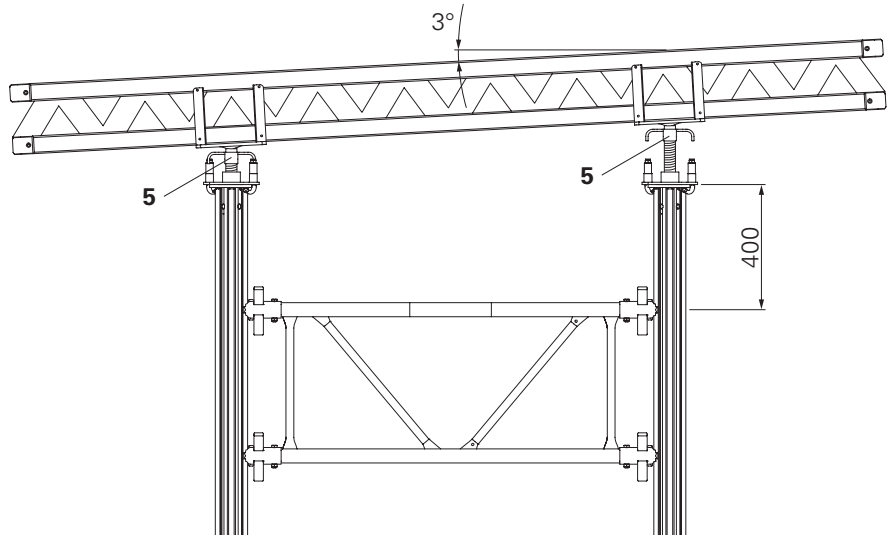

Fig. A2.17
The Tilting Forkhead MP MKK (5) with quick-action clamp coupling can be pivoted on all sides by up to 3°. It serves to reliably support one or two Formwork Girders GT 24 or VT 20 for non-horizontal slab formwork. (Fig. A2.17)